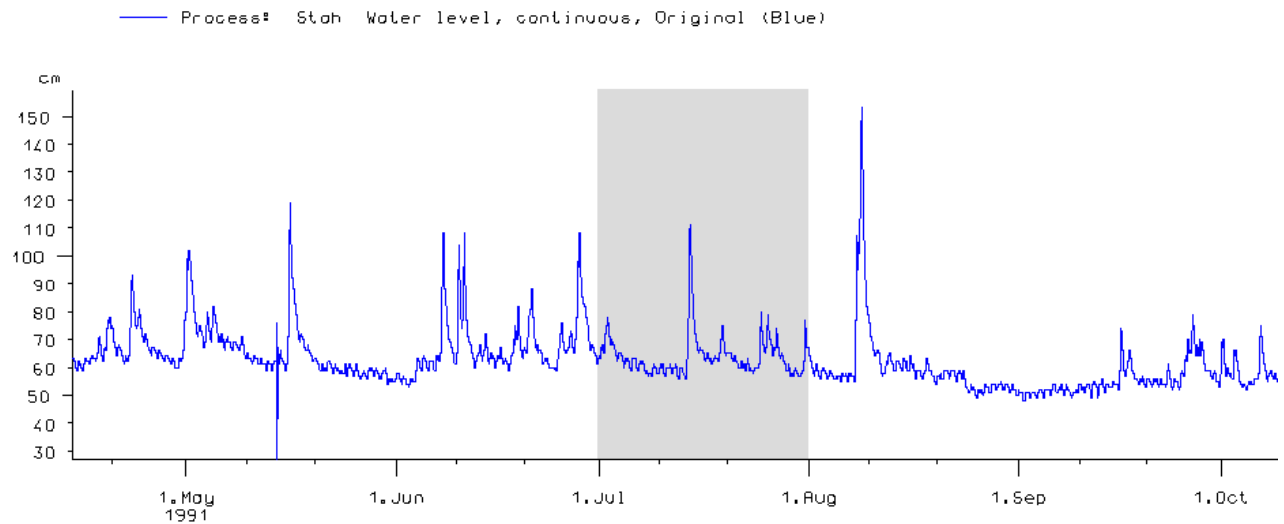
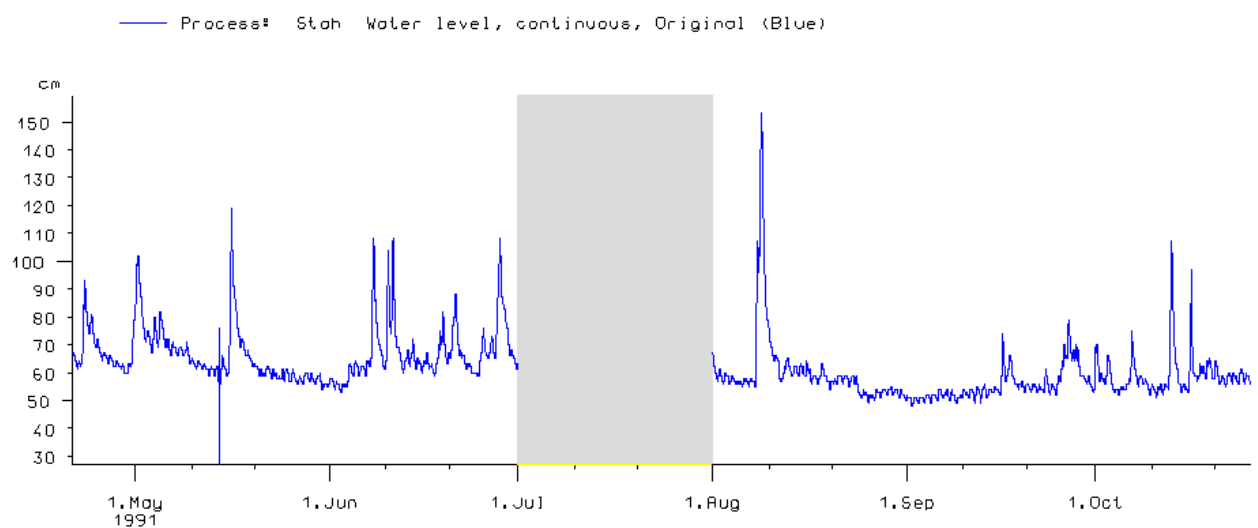

Figure 12.1: Visualisation of blocked periods (user has an according access right)
Figure 12.2: Visualisation of blocked periods (user has no according access right)
- In the **Visualisation** blocked periods are marked by a grey bar ($\leftrightarrow$ fig. 12.1). Furthermore, the according hydrograph segment is not displayed for the unauthorised user ($\leftrightarrow$ fig. 12.2).